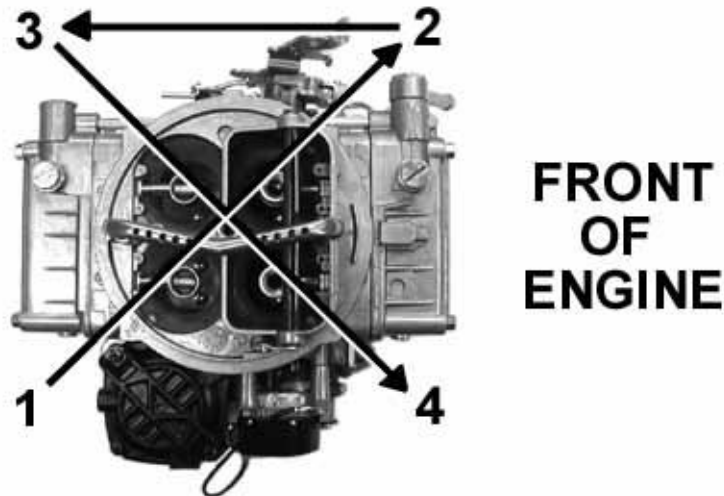

Figure 5
3. Place the carburetor on top of the flange gasket on the manifold. Install the hold-down nuts and snug down progressively in a “crisscross” pattern (60-80 in./lbs.), as shown in Figure 5.